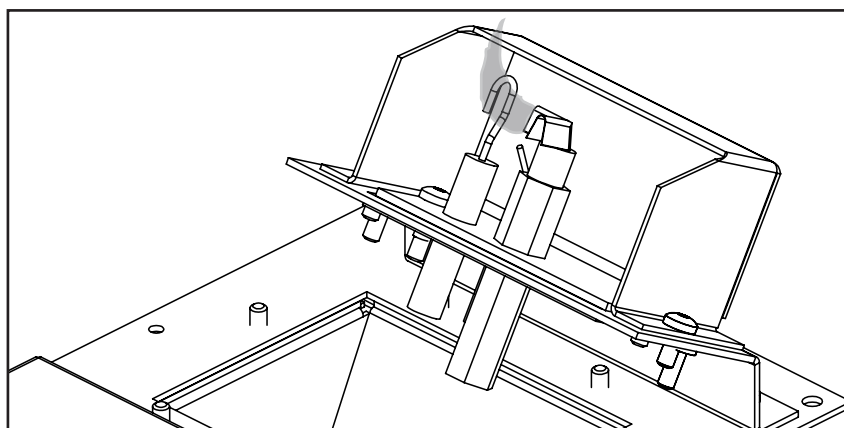

Figure 12: Flame Sensor Coverage
- 12. Relight the pilot and confirm the flame properly covers the flame sensor hook (see Figure 12). Should the pilot require adjustment, turn the adjustment screw clockwise to decrease or counterclockwise to increase until the correct flame is achieved.